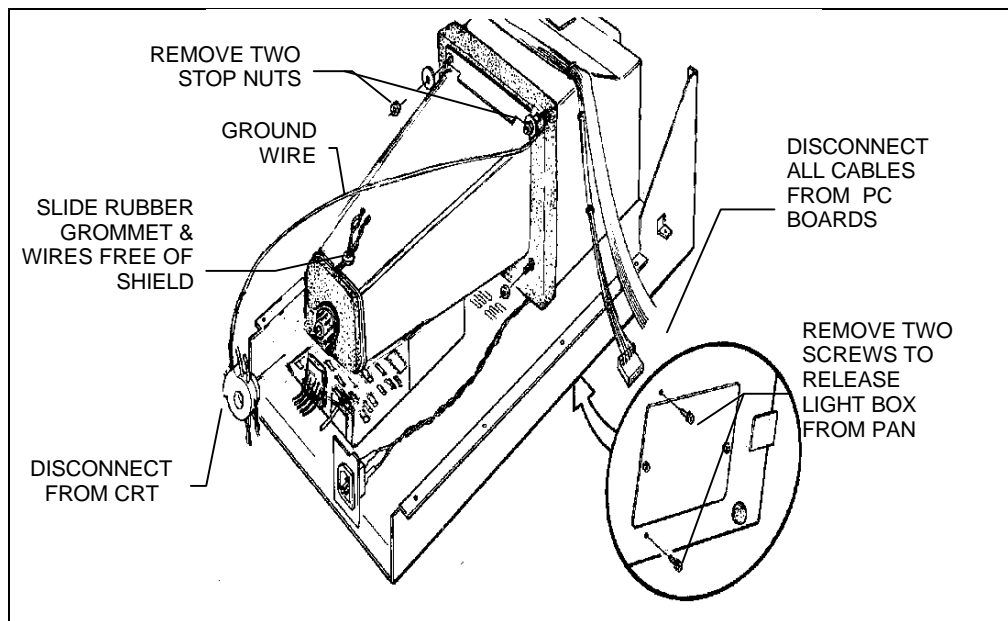

Figure 6- 23. Releasing the Light Box/CRT from the Pan Assembly
15. Pull the metal shield down the CRT far enough to reveal the rubber-encased high voltage lead going into the CRT (Figure 6- 24). Pry off the rubber gasket to free the lead and pull the lead down through the opening at the end of the shield. (Figure 6- 23)